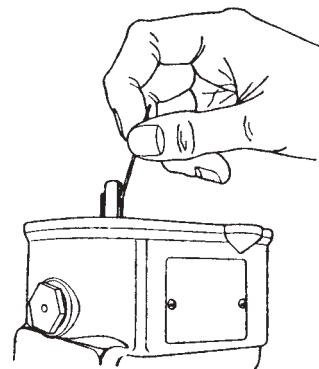

Figure 7.10.6
- K. Apply cam grease sparingly to each lobe of the cam. (See Figure 7.10.6.)
- D. Apply cam grease sparingly to each lobe of the cam. (See Figure 7.10.6.)